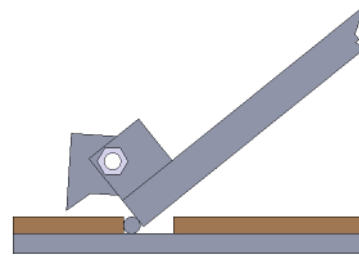

Fig. 15
4. To lower lift: Press the button UP, until the safety lock is in the released position (**See Fig. 15**), lower lift by pushing lowering handle.
(See Fig. 15)